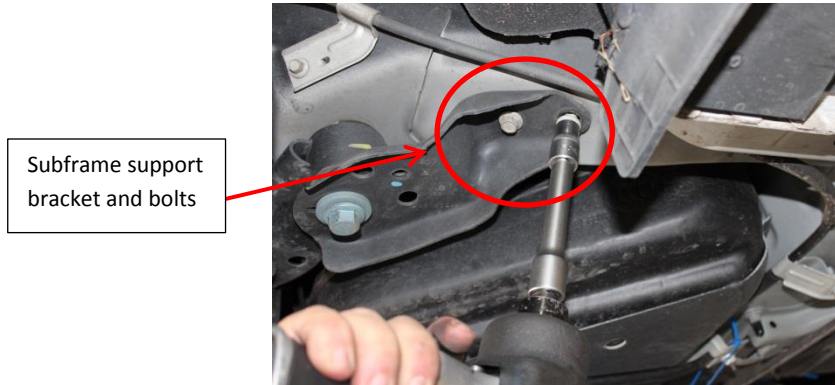

Figure 2
- 10) Before lowering the subframe assembly, remove 4 bolts holding support brackets to chassis (Figure 2). Mark position of subframe with a marker.